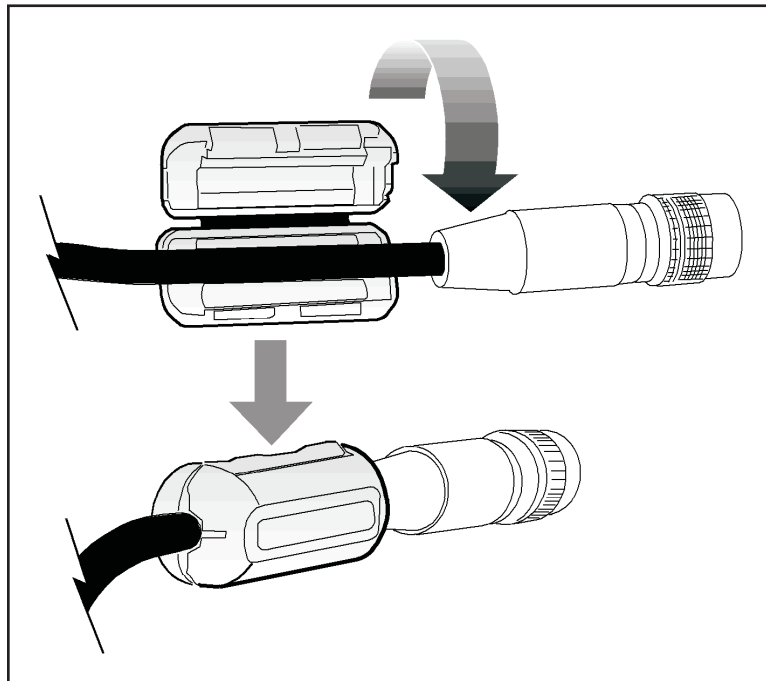

Figure 94 Attaching the Noise-Suppression Module
2. Place the noise-suppression module over one end of the coiled connecting cable, near the cable's connector (Figure 94) and snap it closed.